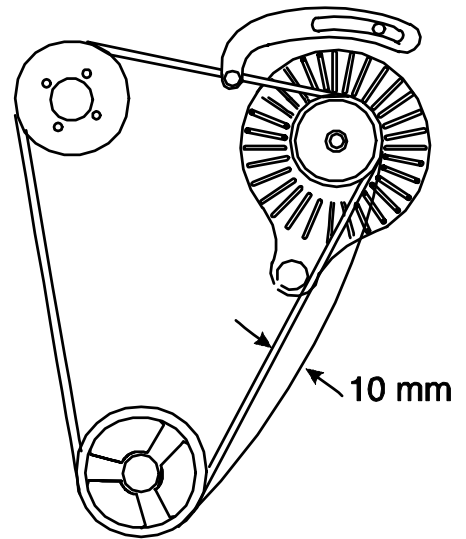

Fig. 16
- 2 Loosen the air bleeding screw (1) 1,5 turns . See Fig 16.
The alternator bracket allows for readjust of the V-belt. Deflections should be 10 mm (refer to fig. 16).